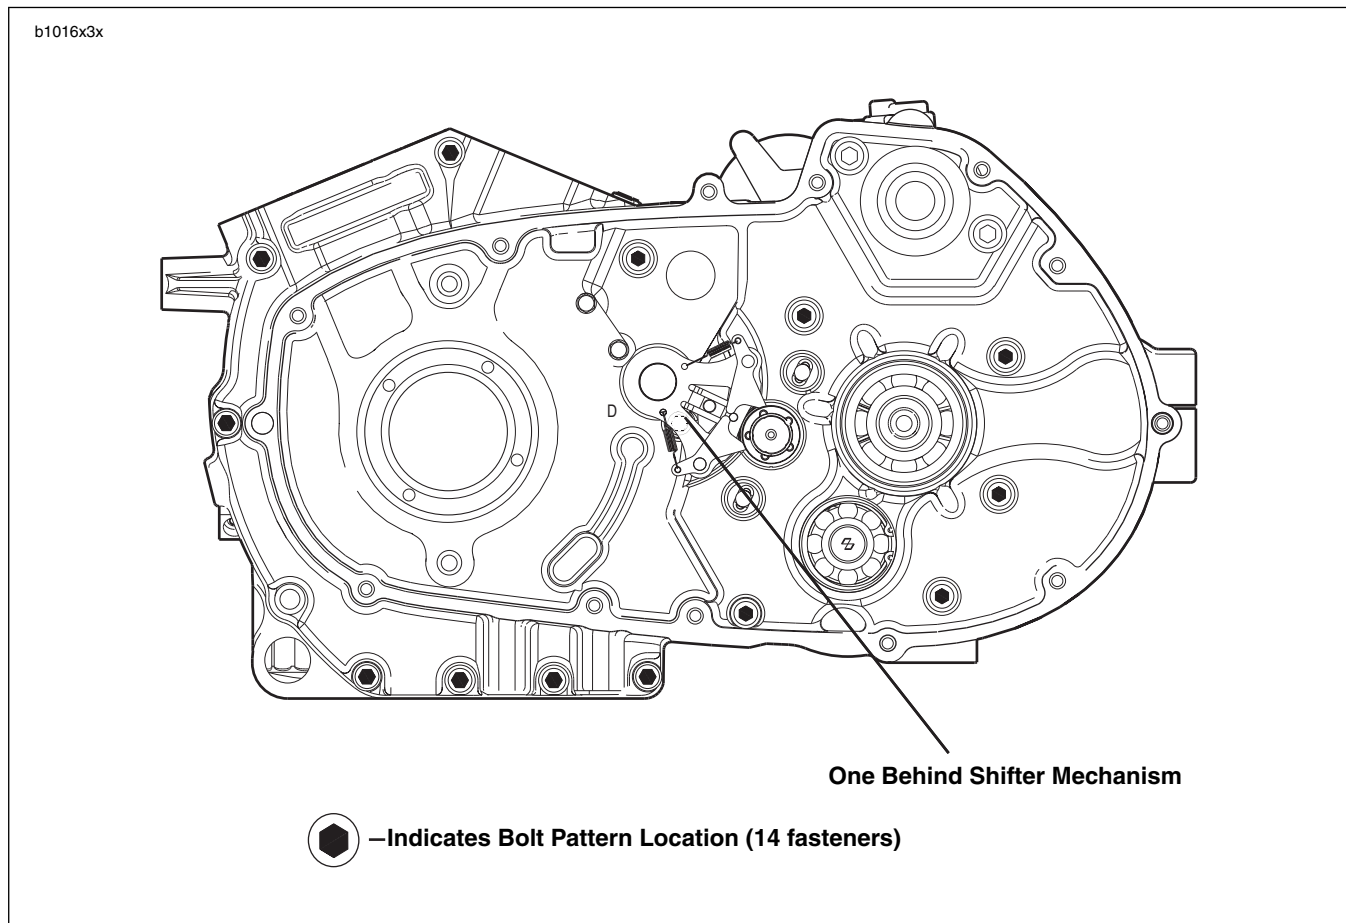

Figure 6-54. Crankcase Fasteners
16. See Figure 6-54. Remove crankcase bolt set (14 fasteners).